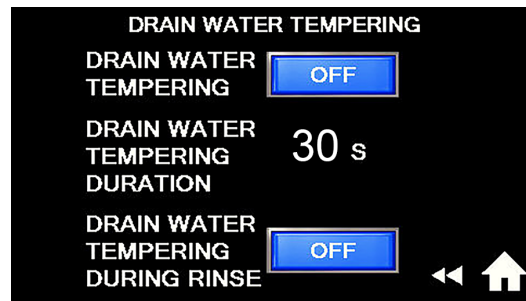

Fig. 72- Drain water tempering settings
2. Refer to Fig. 72 and note the default settings are OFF. The default time the cold water valve is energized is 30 secs. The operating range is between 1 and 120 secs.